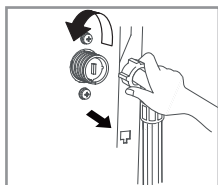

Fig. 20
- Unscrew the water inlet hose. ( Fig. 20)